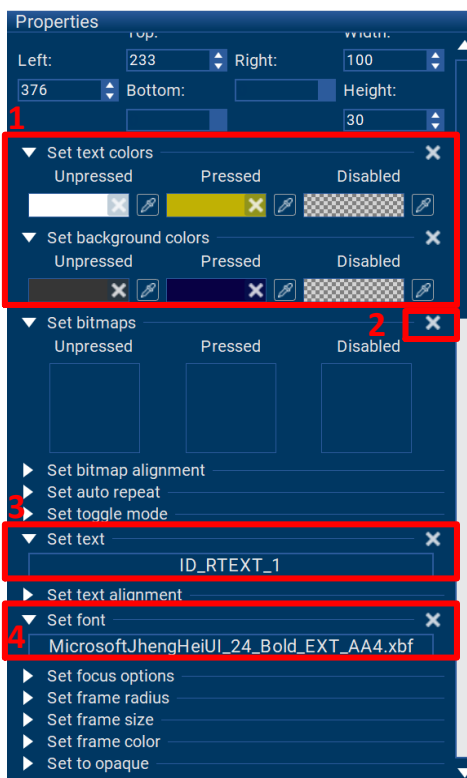

Figure 1-33 Button - Properties
- 1) Set the text color, background color, remove the bitmap setting, and configure the text and font as shown in Figure 1-33.